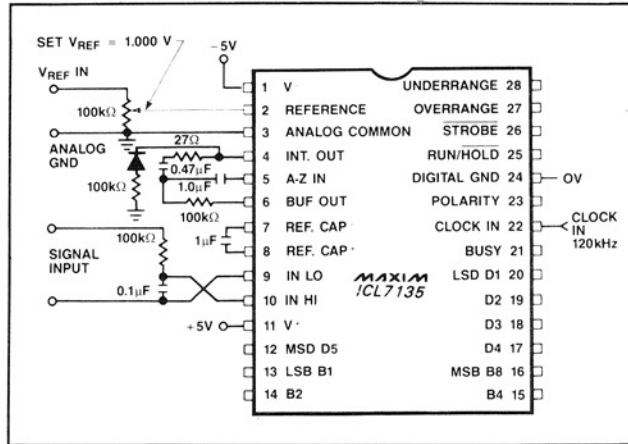

Figure 1. ICL7135 Test Circuit
**Note 1:** Tested in 4½ digit (20,000 count) circuit shown in Fig. 1, clock frequency 120kHz.
The ICL7135 is tested for rollover using the circuit of Figure 1, with the 100kΩ resistor and diode in the circuit. The diode is noncritical, and is typically a low cost 1N4148. The resistor value is dependent on many factors including integrator swing, clock frequency, and the amount of rollover error due to "charge suckout" on the reference capacitor. 100kΩ is the optimum value for most circuits and is the value used in testing the ICL7135.